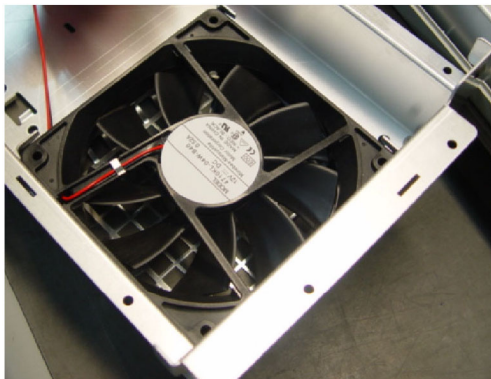

Figure 9: Fan cable dress
3. When reinstalling, dress the fan power cable carefully. (See Figure 9.)